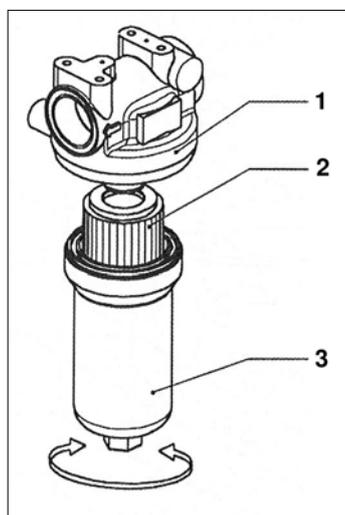

Fig. 7: Protective pump filter set-up
- ▶ Unscrew the filter bowl (3) and pull the filter element (2) off the centering spigot on the filter head (1).
- ▶ Screw on the filter bowl again and fasten it hand-tight (fig. 7).